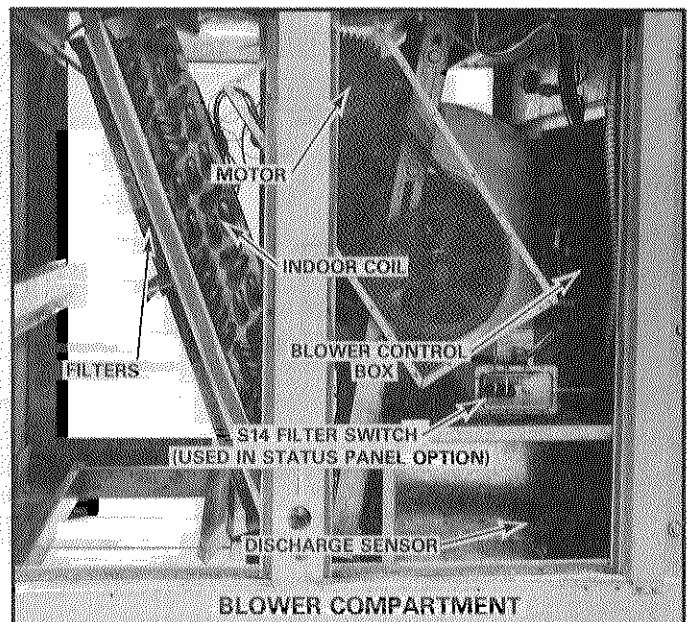

FIGURE 11
**D - Blower Compartment (Figure 11)**